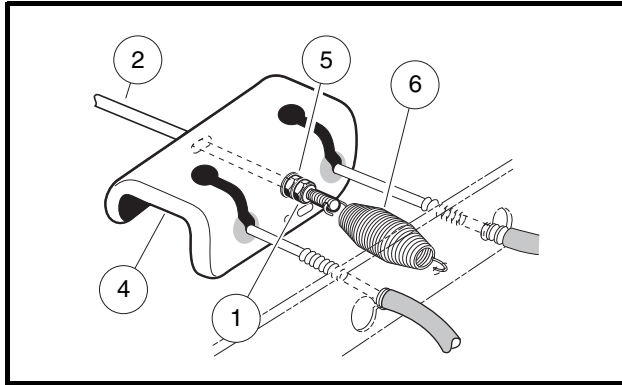

Figure 6-27 Rear Equalizer Adjustment
- 1.1. To provide slack in the brake cables, loosen the equalizer retaining nuts (1 and 5) on the equalizer rod (2) (**Figure 6-27, Page 6-13**).
- 2.2. Tighten the jam nut (5) on the rear equalizer rod (2) clockwise to 35 in-lb (4 N·m) (**Figure 6-27, Page 6-13**).
- 2.5. Hold the jam nut (5) on the rear equalizer rod (2) in place with a wrench and tighten the lock nut (1) to 13 ft-lb (17.6 N·m) (**Figure 6-27, Page 6-13**). See following **CAUTION**.
- If the brake pedal return spring (6) was disconnected while equalizing the brake cables, be sure to reconnect it before proceeding (**Figure 6-27, Page 6-13**).
2. Release park brake and loosen equalizer retaining nuts (1 and 5) on equalizer rod (2) to slightly loosen brake cable (**Figure 6-27, Page 6-13**).